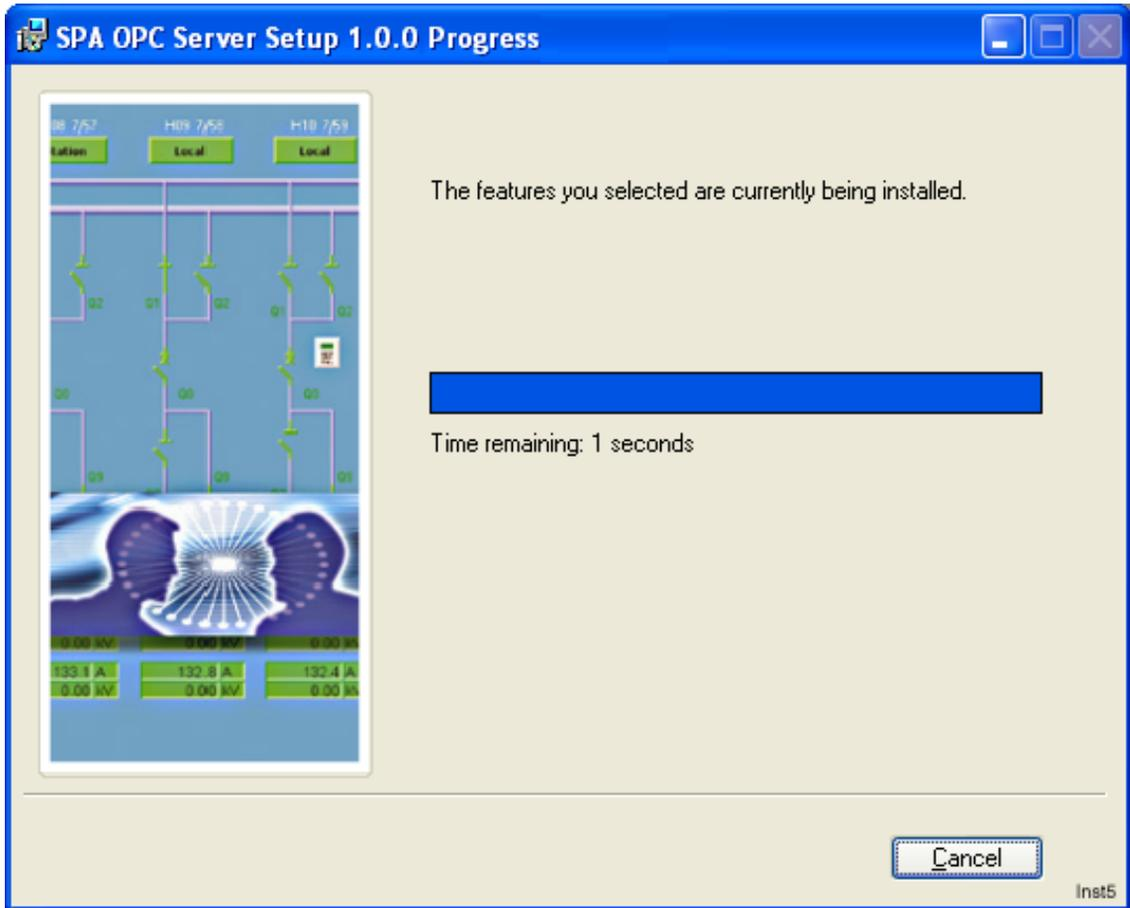

Figure 2-5: Progress of the installation
5. You can now follow the progress of the installation. You can also cancel the installation at this point by selecting **Cancel**, see Figure 2-5.